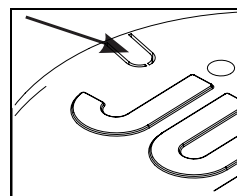

Figure 7
**Step 6. (MVOLT ONLY)** For 0-10V dimming leads, remove knockout in cover (Fig 7) over two position connector.